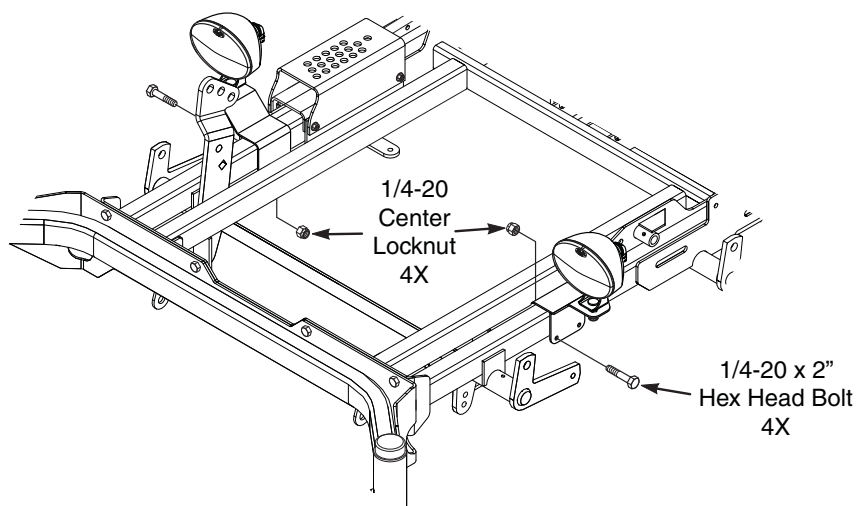

Figure 2. Install Light & Bracket Assemblies
3. Install the (2) two light and bracket assemblies onto the frame of the machine and secure using (4) four 1/4-20 x 2" hex head bolts and (4) 1/4-20 center locknuts provided with this kit. See Figure 2. Page 2. Do not tighten hardware at this time.